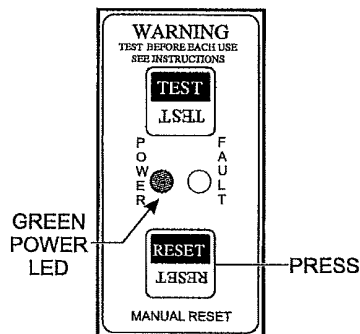

Figure 45. GFCI Module (Green LED ON Reset)
- To restore power, press the **RESET** button on the GFCI module and verify that the red fault LED turns **OFF** and the green power LED should turn **ON** (Figure 45).